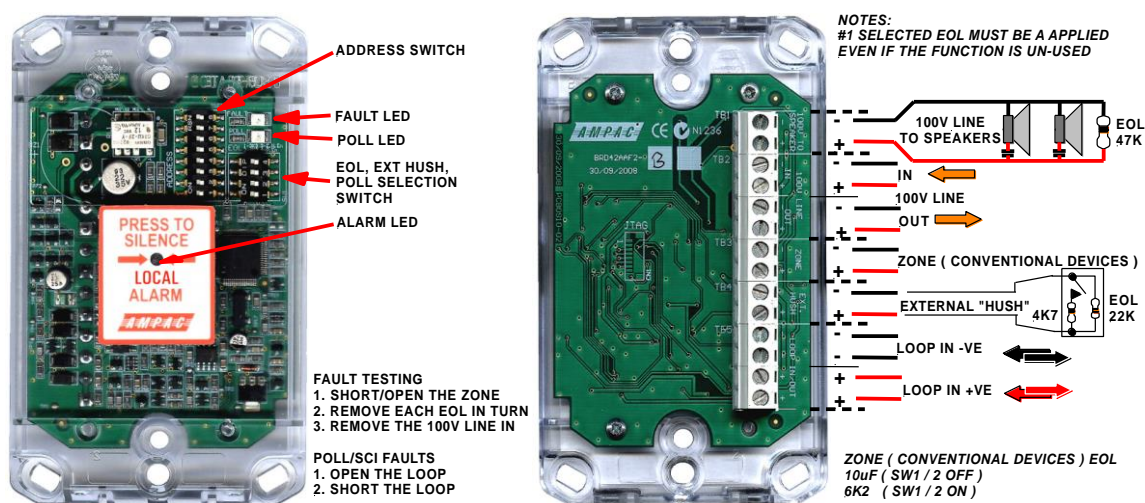

Figure 1: Apartment Module general wiring
4. All cabling should be run into a general purpose wall box and connected as per *Figure 1*